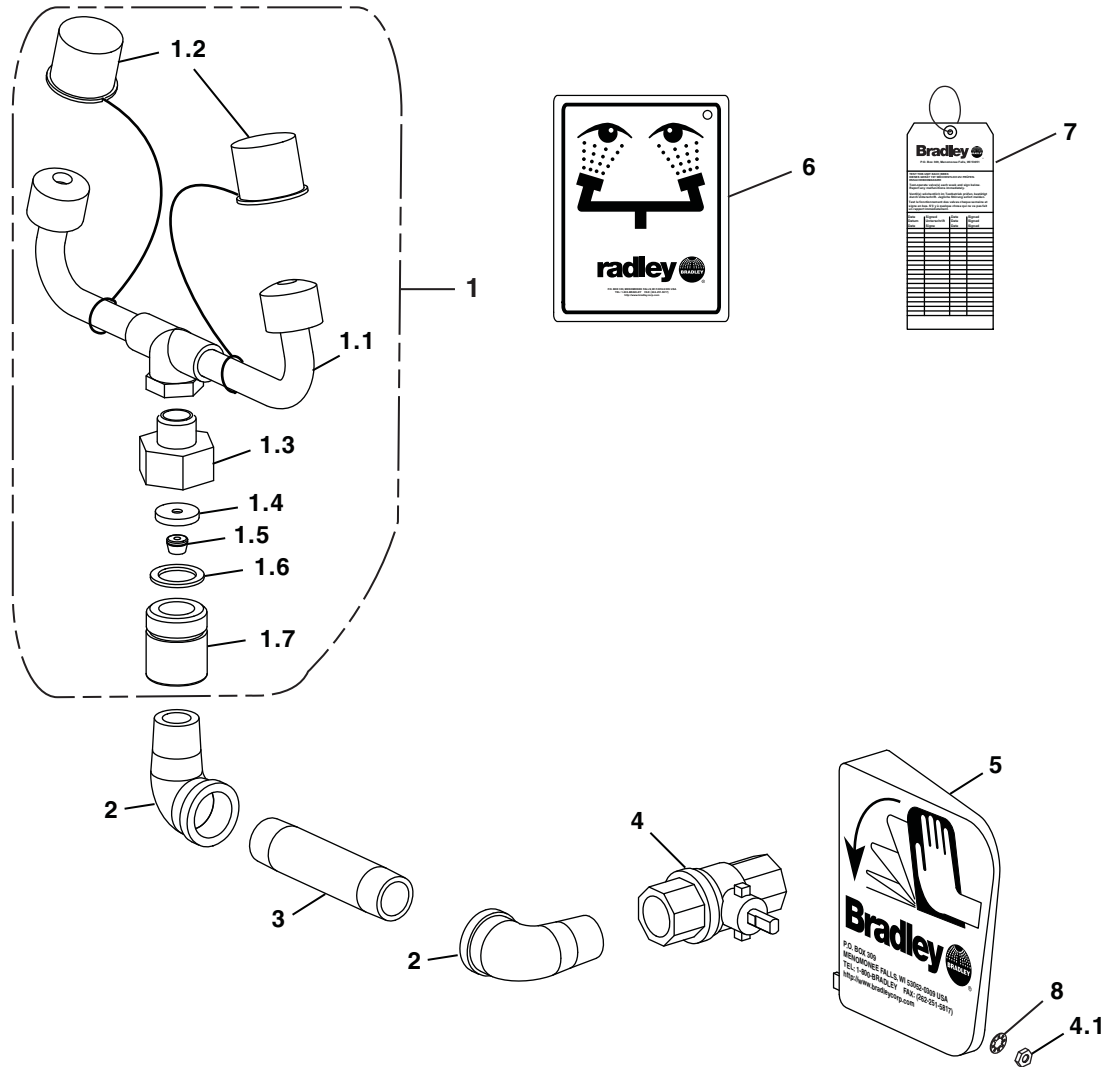
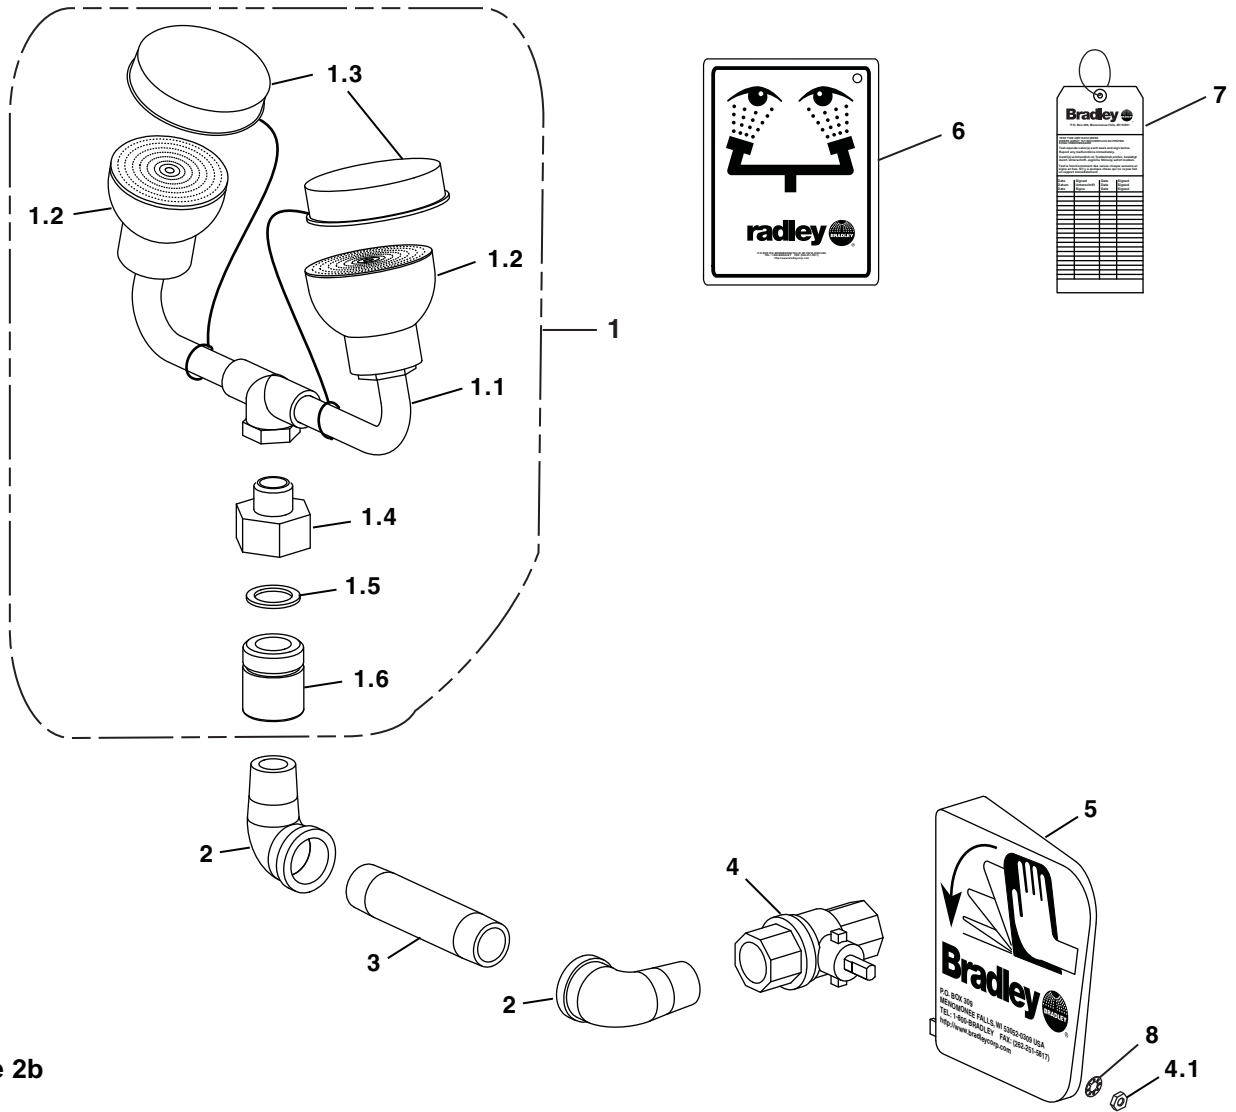

Figure 2a
Figure 2b
1. Assemble eyewash components as shown in Figure 2a on page 4 (S19-240) or Figure 2b on page 5 (S19-240FW).